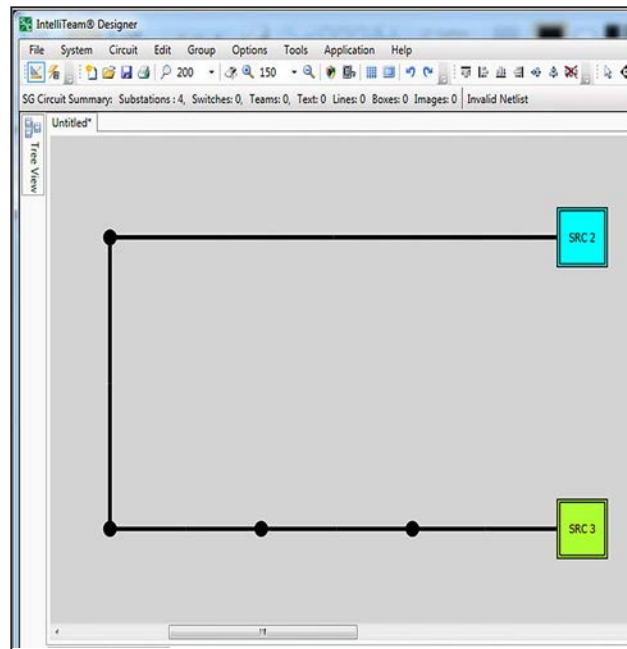

Figure 46. Add wires to complete the circuit.
STEP 4. Continue placing wires until all of the wires are connected, as shown in Figure 46.